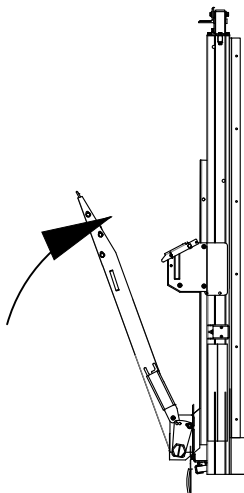

Figure 20: Step 14.
- Step 14. To close the platform, stand to the passenger's side of the platform, not under or behind the platform. Position the platform approximately 4" below bed height. Lift up on the platform hold-down (if equipped) to disengage it. Use both hands to fold the platform to the vertical position (Figure 20).